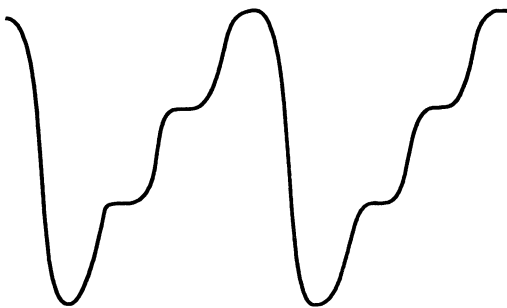

Figure 24. Non-inverting Receiver: RDM to Transmitter Inversion
- If it looks like Figure 24, there has been an inversion between the RDM and the simulcast transmitter. Check the connection at point C for crossed wires and repeat steps 1 through 7.